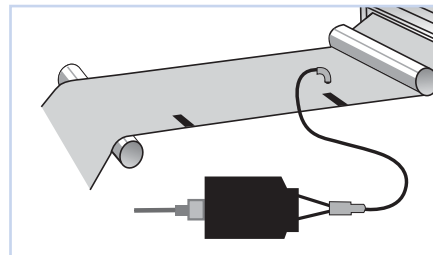

Fig. 1 Straight Position
1. Position the fiberoptic light guide to view material looking straight down. (See Fig.1)
- A. For a black or dark mark on shiny foil, position light guide to view material looking straight down. (See Fig. 1)